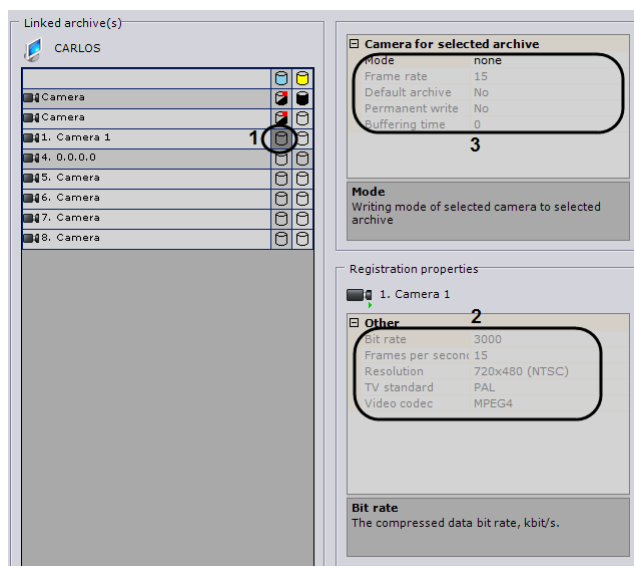

Fig. 6.6—7 Configuring recording from a video camera to an archive
- From the **Mode** list (see Fig. 6.6—7, 3), select the desired mode of recording the video stream from the video camera to the archive: none, recording with scaling, recording with the fps given in the camera settings.
- If you choose recording with scaling, enter the maximum frame rate when recording the video stream from a video camera to the archive in the **Max frame rate** field (see Fig. 6.6—7, 3). If the frame rate of the video stream coming in from a video camera is less than the indicated value, the recording will be made at the original and not the maximum rate.